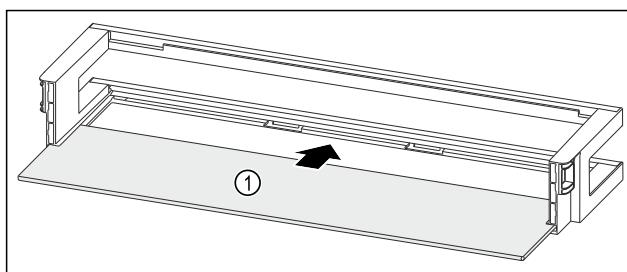

Fig. 150 Door rack with shelf
- ▶ Push the shelf Fig. 150 (1) into the side recesses.